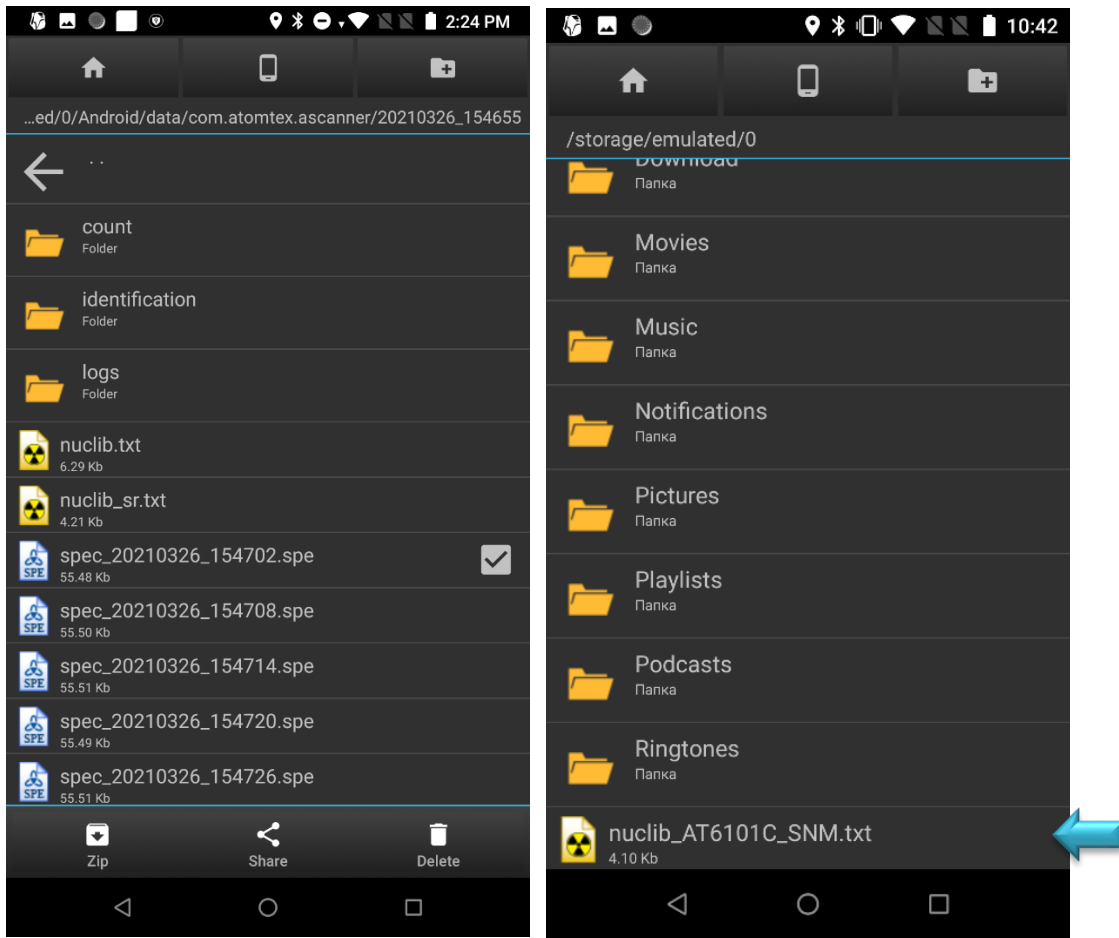

Figure 20 – Selecting the custom nuclide library file
- Copy the library file “**nuclib_AT6101C_SNM.txt**” to PDA (see Figure 20) (any location, for example, to the root folder)